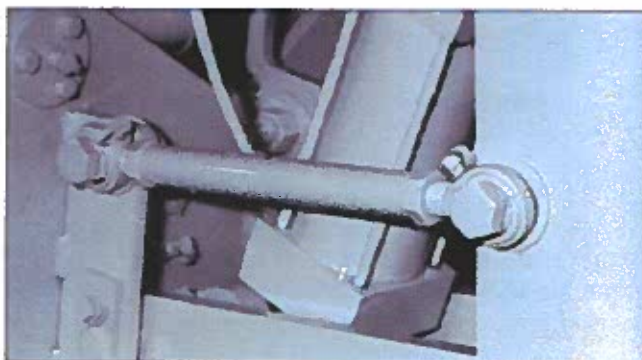

Figure SP-12
7. Loosen the jam nut on the turnbuckle (Figure SP-12).